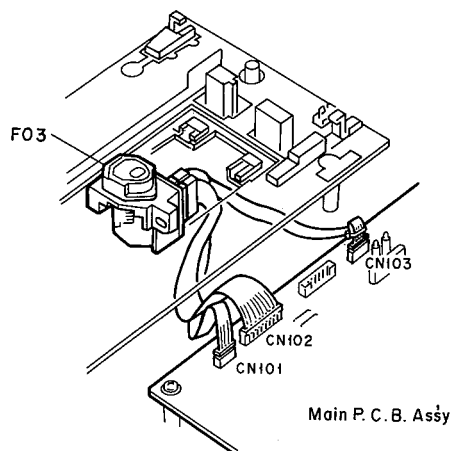

Fig. 2.9.3
- (8) Disconnect three connectors CN101, CN102 and CN103 from the Main P.C.B. Ass'y and remove F03 (Laser Pickup Ass'y). See Fig. 2.9.3.
- (2) Connect three connectors CN101, CN102 and CN103 to the Main P.C.B. Ass'y. See Fig. 2.9.3.